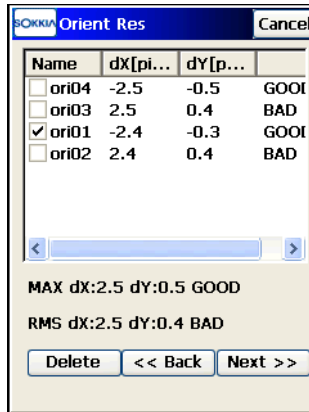

Figure 8-61. Delete Orientation Points
- To delete the selected orientation points, select the points and tap the **Delete**  button on the *Orientation Res* screen (Figure 8-61).